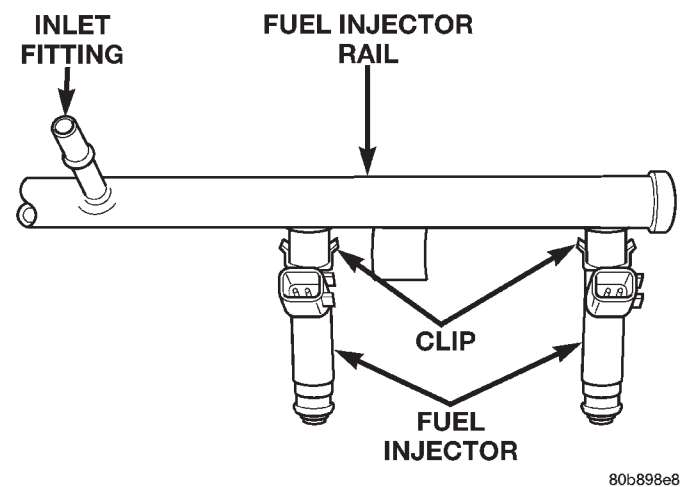

Fig. 36 Fuel Injector Mounting—Typical (4.7L V-8 Engine Shown)
(1) Perform Fuel System Pressure Release Procedure.
(2) Remove fuel injector rail. Refer to Fuel Injector Rail Removal/Installation.
(3) Remove clip(s) retaining injector(s) to fuel rail (Fig. 36).